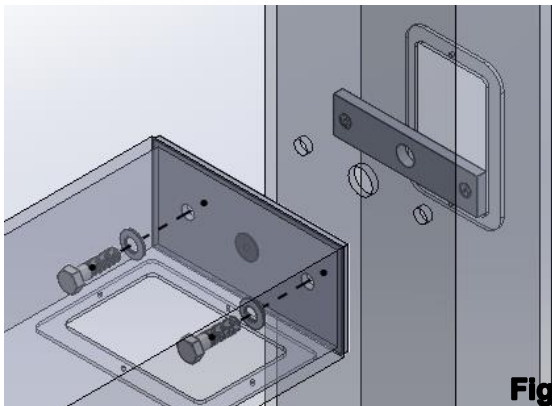

Fig. 7
- Align the fixture mount with the pole's drilling pattern and secure it with two 1/2-13 bolts with sealing washer and the nut plate. Tighten to 30 lb-ft. **Fig. 7**